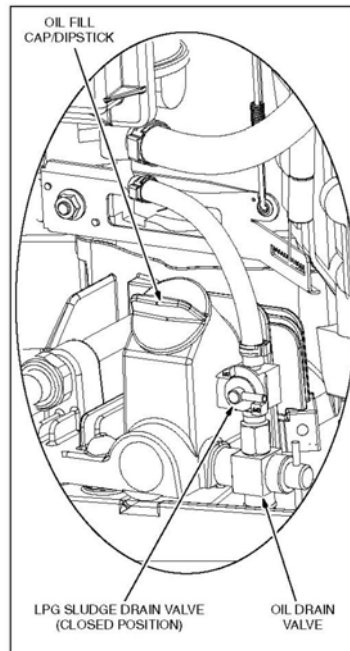

FIGURE 6. OIL FILL/DIPSTICK AND DRAIN VALVE
4. Open the oil drain valve (Figure 6).
- a. Drain the LPG system of accumulated sludge by opening the sludge drain valve (Figure 6). Oil-like sludge can migrate from the LPG supply system during operation, and if allowed to accumulate, can cause hard starting and rough running. The sludge drains out through the engine oil drain hose.